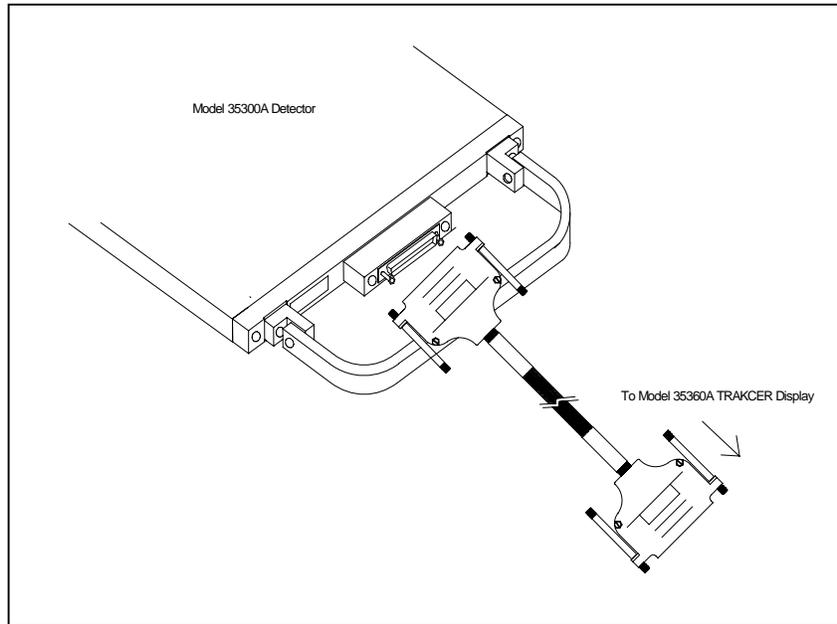
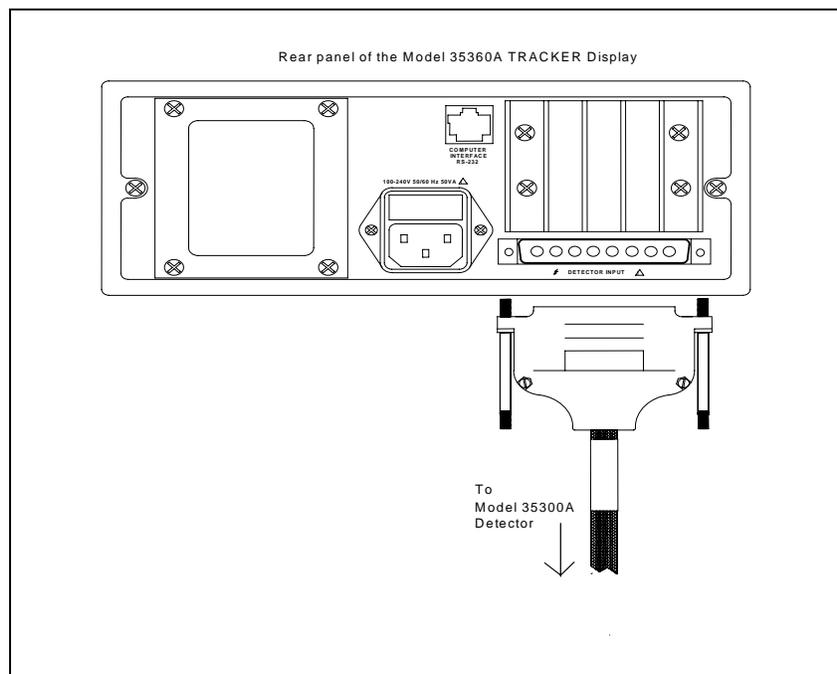

Figure 2-2. Connecting the Interface Cable to the Model 35360A TRACKER Display
Figure 2-3. Connecting the Interface Cable to the Model 35300A Detector
Before you attach the 35300A Detector to the 35360A TRACKER Display, you must perform the following procedure (refer to Figure 2-2 and Figure 2-3).
2. Firmly press the 8-pin D connectors at either end of the interface cable into the 35360A TRACKER Display and the 35300A Detector, see Figure 2-2 and Figure 2-3.